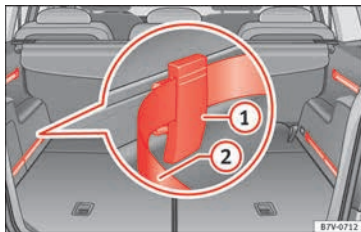

Fig. 170 In the luggage compartment: system including rails, adjustable attachment elements ① and adjustable tightening straps ②.
- Fit the attachment element with the ruts facing upwards » Fig. 170 ① to the upper part of the guide and press downwards.